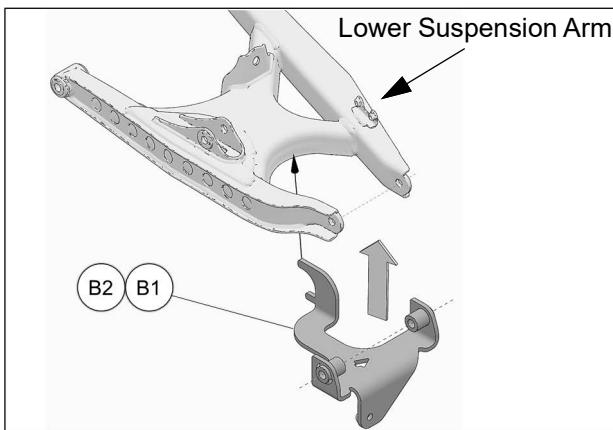

Fig. 5
- Bring anchor bracket (B1-B2) up to lower suspension arm. See Fig. 5